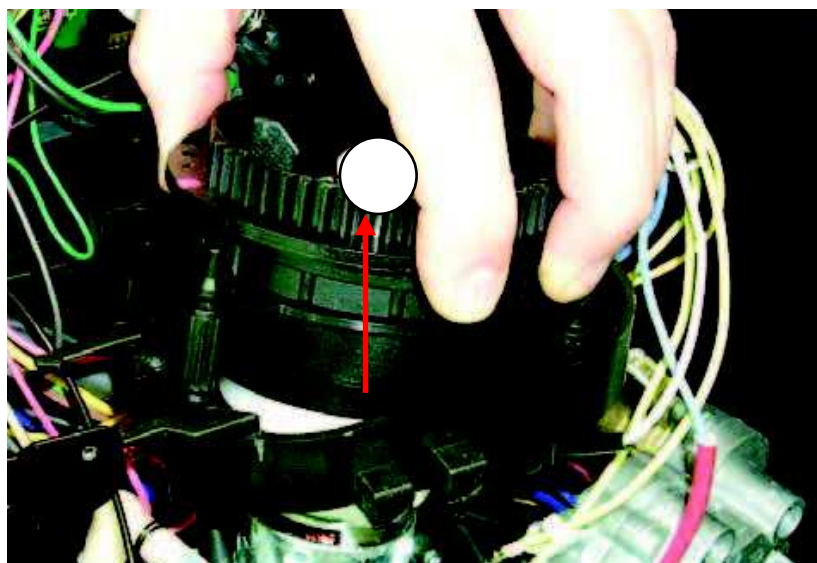

Fig. 26
- e) Pull grinding motor out of its fitting (see Fig. 26).
- f) Unscrew the nine screws (1) of the gear cover and remove cover.